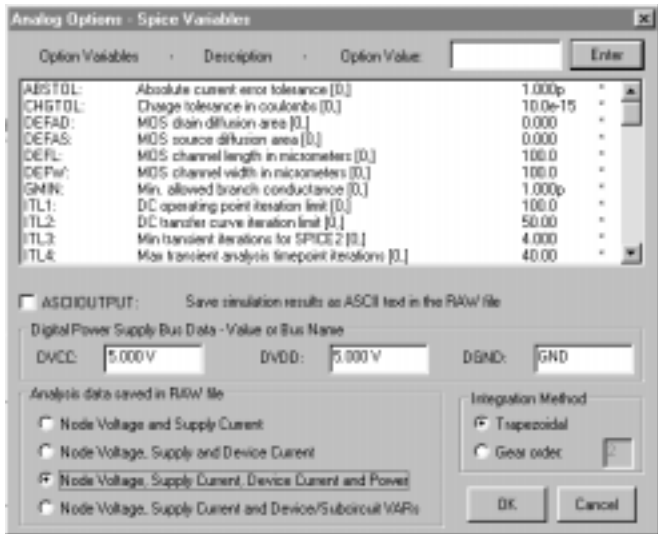

Figure 3.5. The third option (selected) lets you measure voltage, current, and power with the Probe Tool.
- 5 Choose **Simulation > Analyses Setup** then click the **Analog Options** button to display the dialog box shown in Figure 3.5.